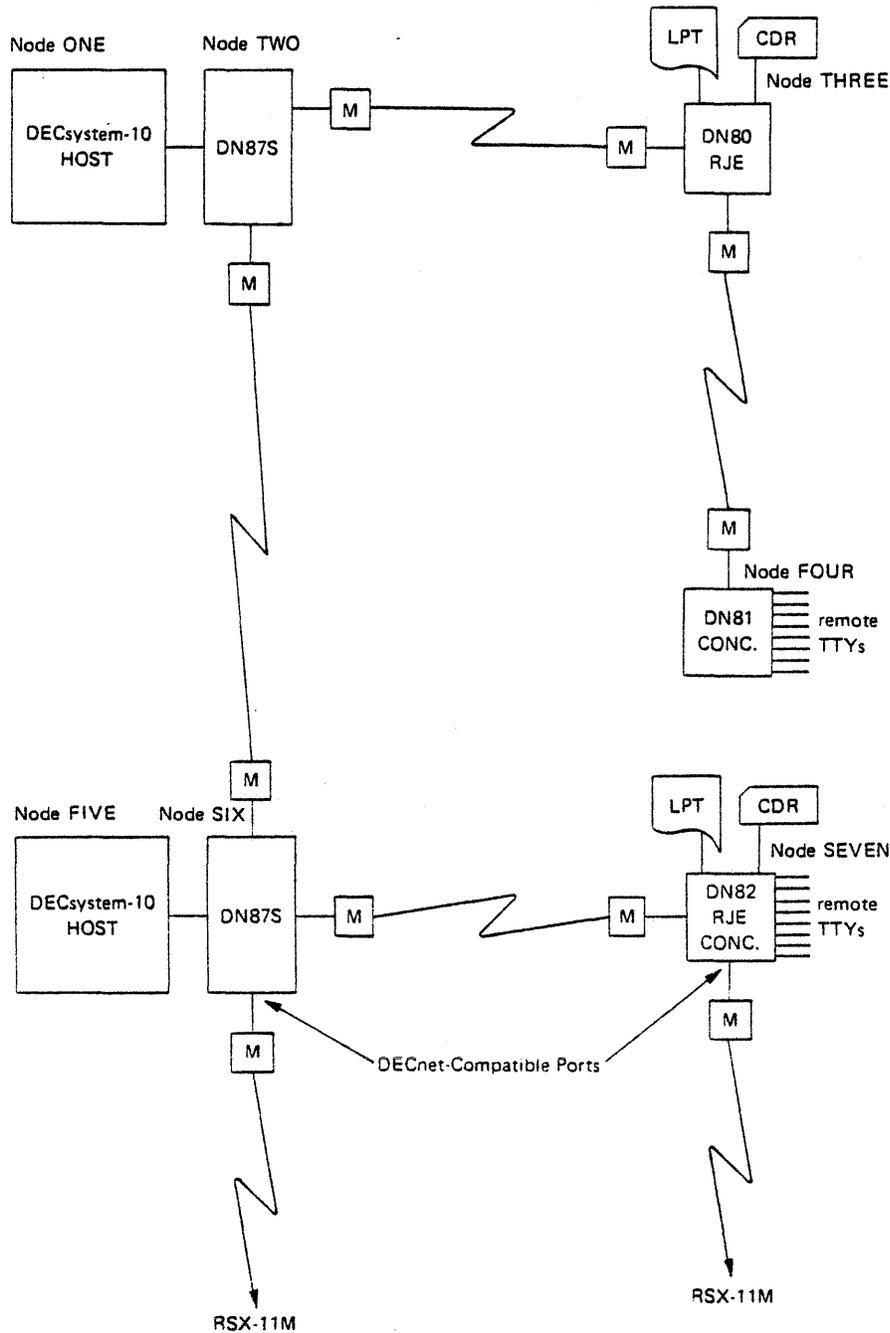

Figure 1-4 Multilink Configuration
1.1.3.2 Complex Topologies - Complex topologies are composed of multiple links and multiple nodes. A multilink configuration as shown in Figure 1-4 can include multiple DECsystem-10s in the same network. A multihost configuration permits the user at a remote station to select his host with the SET HOST command. The route-through capability allows communication between two nodes that are only indirectly connected via one or more intermediate nodes (nodes FOUR and SEVEN in Figure 1-4).